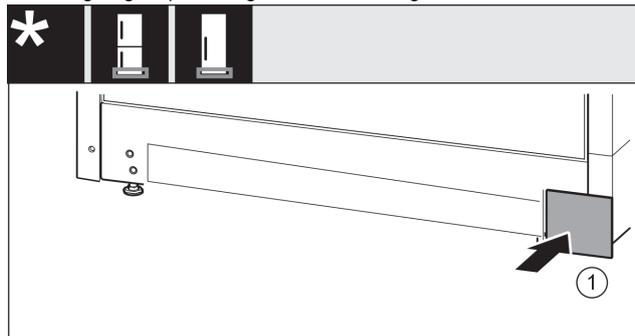

Fig. 18
- ▶ Put the cover back on the other side. Fig. 18 (1)